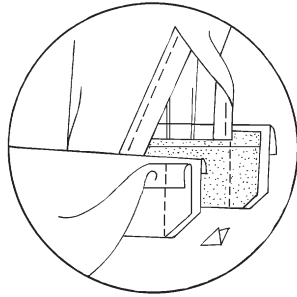

Fig. 11-9
- 8. Grade the seam allowances of the end seams and trim the corners diagonally. (Fig. 11-9)